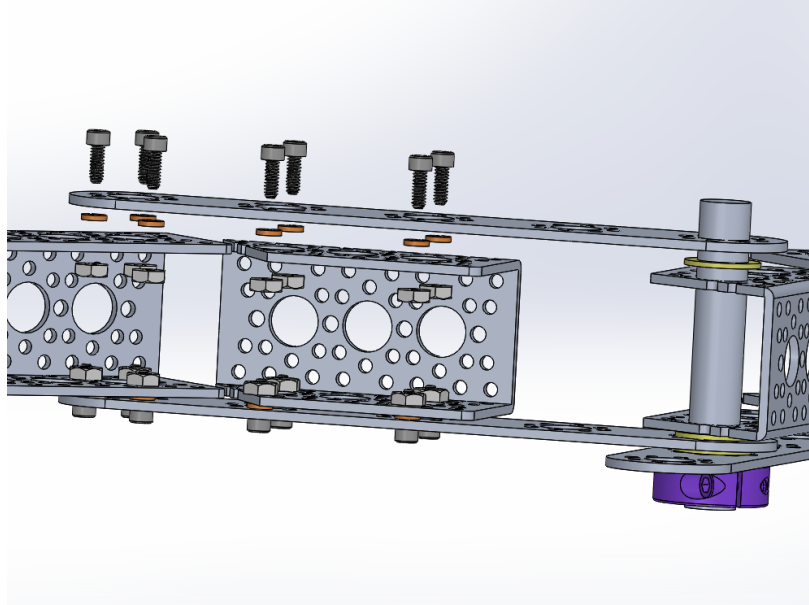

Figure 7: Start the other side of Rocker-Bogie joint
5. **Opposite edge of Rocker-Bogie Joint:** Attach another Pattern F bracket **S7** to the opposite side of the channels using washers **W1** and **W3**, screws **B4**, and hex nuts **B8** as shown in Figure 7.